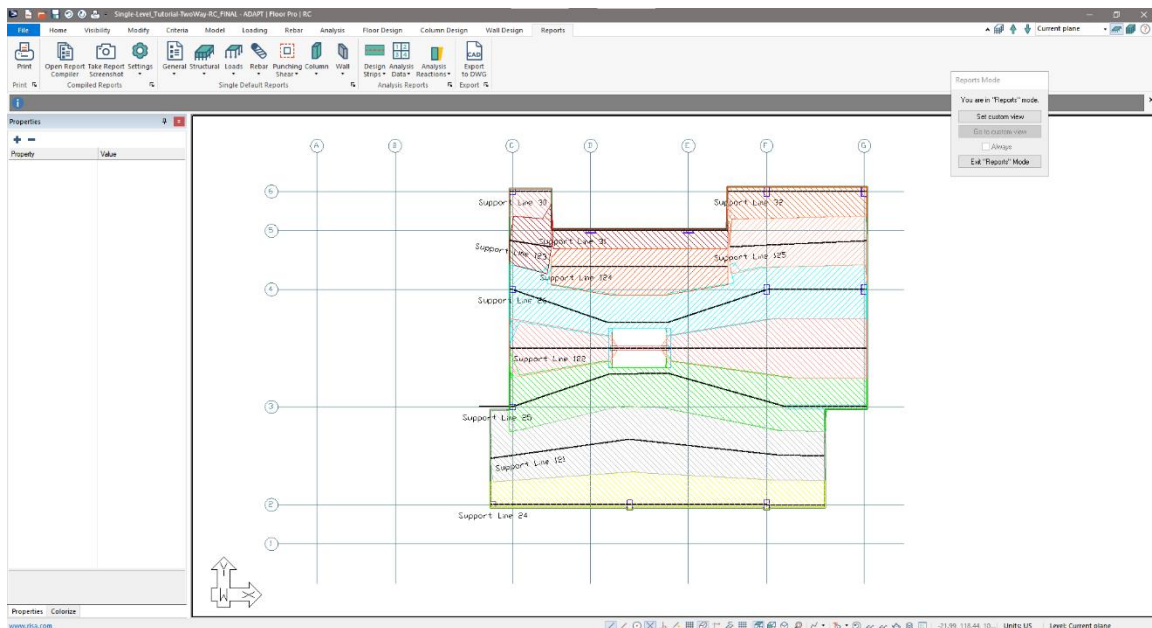

Figure 6-26
- Go to *Reports* → *Analysis Reports* → *Design Strips* → *Design Strips X-Direction*. This will bring up a report view of the design strips for the user to review as shown in **FIGURE 6-26**.